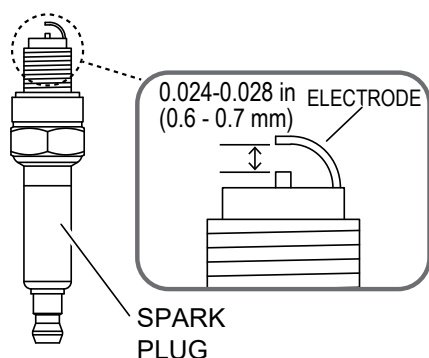

Figure 44. Spark Plug Gap
9. Check the gap between the electrodes (spark gap), and adjust it if not within the following measurement (Figure 44).